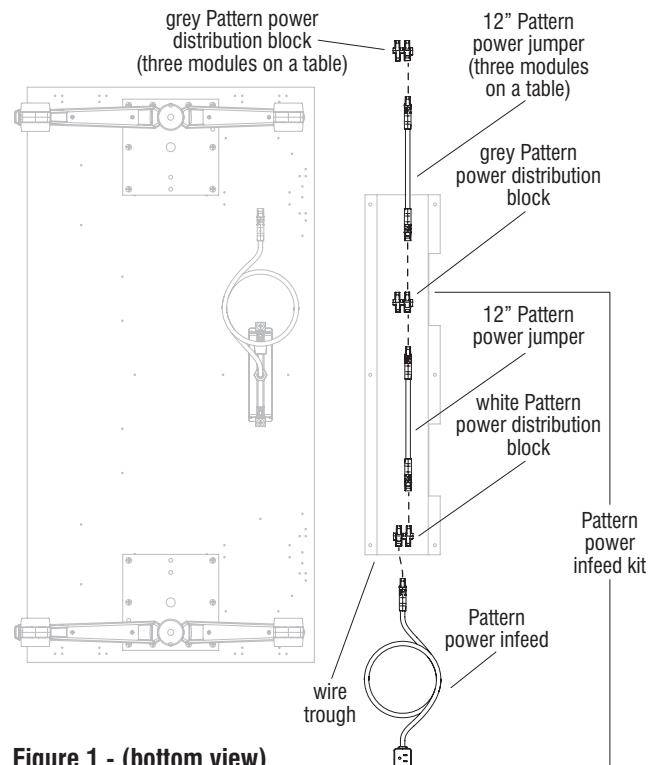

Figure 1 - (bottom view)
2. For a run of tables, start Pattern electrical system assembly with the table that will contain the Pattern power infeed. Place the Pattern power infeed into the wire trough, routing the connector end toward the middle of the trough, and leaving the plug end out of the wire trough as illustrated (Figure 1).
3. Locate one white and one grey Pattern power distribution block. Plug the power infeed's male connector end into the white power distribution block first, as illustrated (Figure 1 & Detail A).
4. Next locate a 12" Pattern power jumper and plug the female connector end into the white power distribution block also. As illustrated in Detail A, either port opposite the power supply cord is fine (Figure 1 & Detail A).
5. Take a grey power Pattern distribution block in hand. Plug the previously installed (step 4) 12" Pattern power jumper's male end into the grey power distribution block as illustrated (Figure 1 & Detail B).
6. Steps 1 through 5 assemble a standard Pattern power infeed kit (Figure 1). If the table being assembled has the power infeed installed and it will receive three power modules, an additional 12" Pattern power jumper and grey Pattern power distribution block on the end will be required after the first grey distribution block (Figure 1).